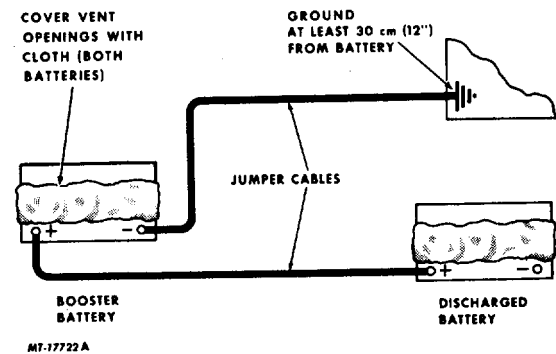

Fig. 9 Proper Jumper Cable Connections
4. On negative ground vehicles, attach one end of the jumper cable to the positive (+) terminal of the booster battery and the other end of same cable to positive (+) terminal of discharged battery (Figure 9).
5. On negative ground vehicles, attach one end of the remaining jumper cable to the negative terminal of the booster battery and the other end to a ground at least 304 mm (12 inches) from the battery of the vehicle being started (Figure 9). (DO NOT connect directly to the negative post of the dead battery.) The ground connection must provide good electrical conductivity and current carrying capacity.